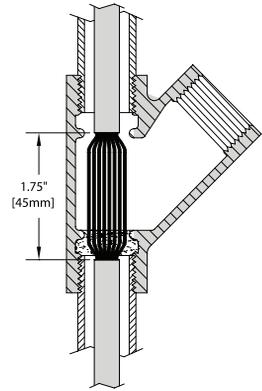

Figure 1. Conduit Seal
- A. **Ground** the Power Supply by connecting a ground lead between the metal conduit to the Power Supply and a good electrical machine ground. Note that conduit seals must be properly installed to prevent the propagation of vapors and flames through conduit runs (see **Figure 1**). Outer jacket of modular cables must be removed (and individual wires separated) before filling conduit seals with cement.